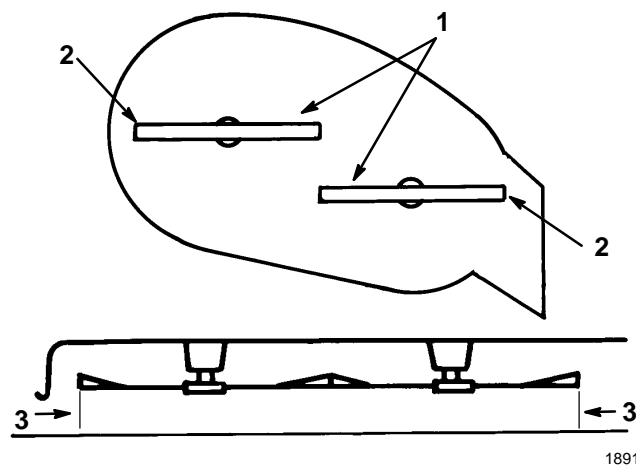

Figure 48
4. Carefully rotate blade(s) side to side (Fig. 48). Measure between the outside cutting edges and the flat surface (Fig. 48). If both measurements are not within $3/16"$ (4.8 mm), an adjustment is required; refer to steps 5 and 6.